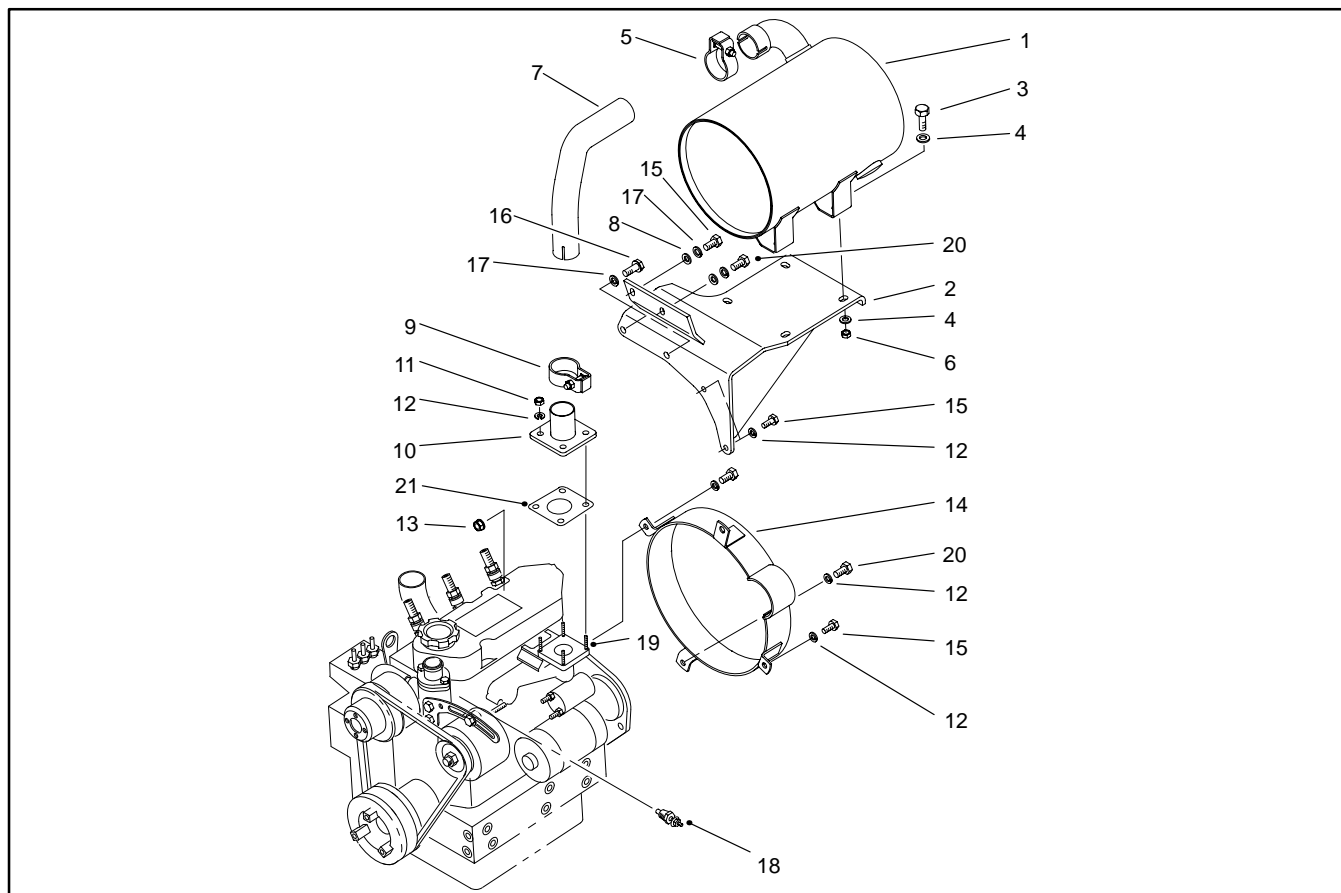

Figure 17
2. Remove muffler and/or muffler bracket from the engine as necessary using Figure 17 as a guide.
1. Install muffler and/or muffler bracket to the engine using Figure 17 as a guide.